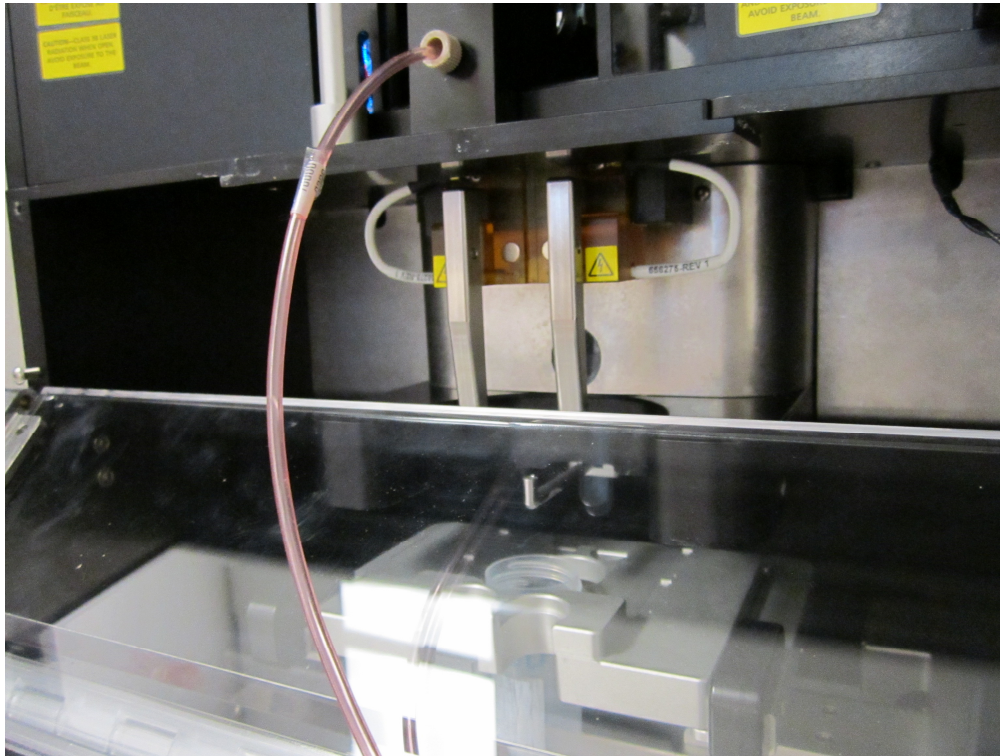

Figure 5. The deflection plates in the open position.
- 5.7.2 If starting from a Wet Shutdown, open the deflection plates if they are not open (Figure 5), click the Stream button then remove the debubble reservoir and the flush bucket under the nozzle assembly.